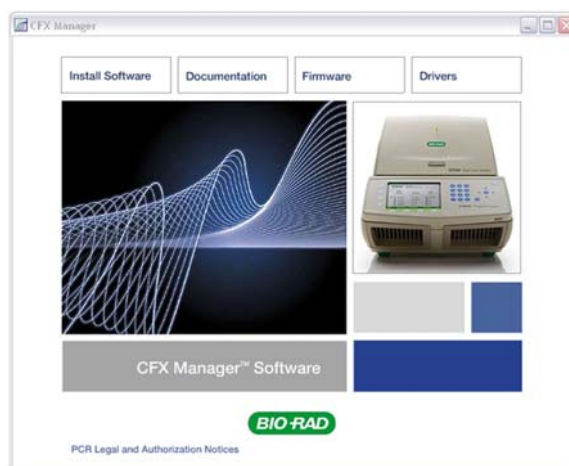

Figure 6. Software installation screen.
3. The software launch page should appear automatically. Double-click **Install Software** on the software launch page (Figure 6).